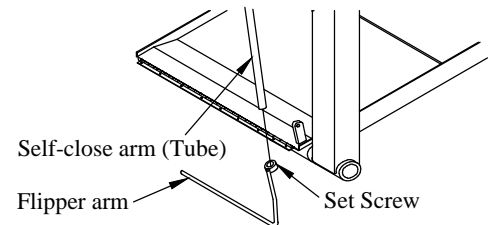

Figure 22: Flipper arm location.
9. **Install** the flipper arm over the self-closing tube (Figure 22).
10. **Tighten** the 1/4" set screw on the flipper arm (Figure 22).